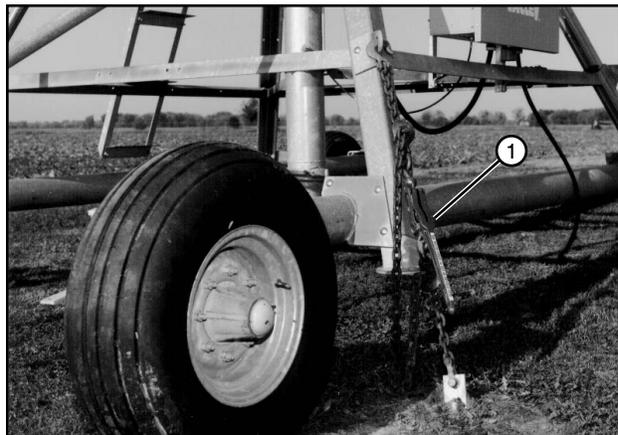

Figure 60-2 1. Load Binder
21. Attach and tighten the load binders at each corner of the pivot. See Figure 60-2.